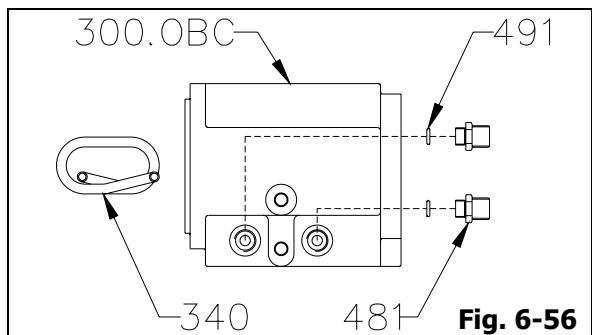

Fig. 6-56
15. For bearing frame with oil bath cooling (300.OBC), unscrew two (2) cooling coil adaptors (481) and remove two (2) cool coil "O" rings (491) from bearing frame (300.OBC). Carefully remove bearing frame cooling coil (340) from bearing frame (300.OBC) (Fig. 6-56).